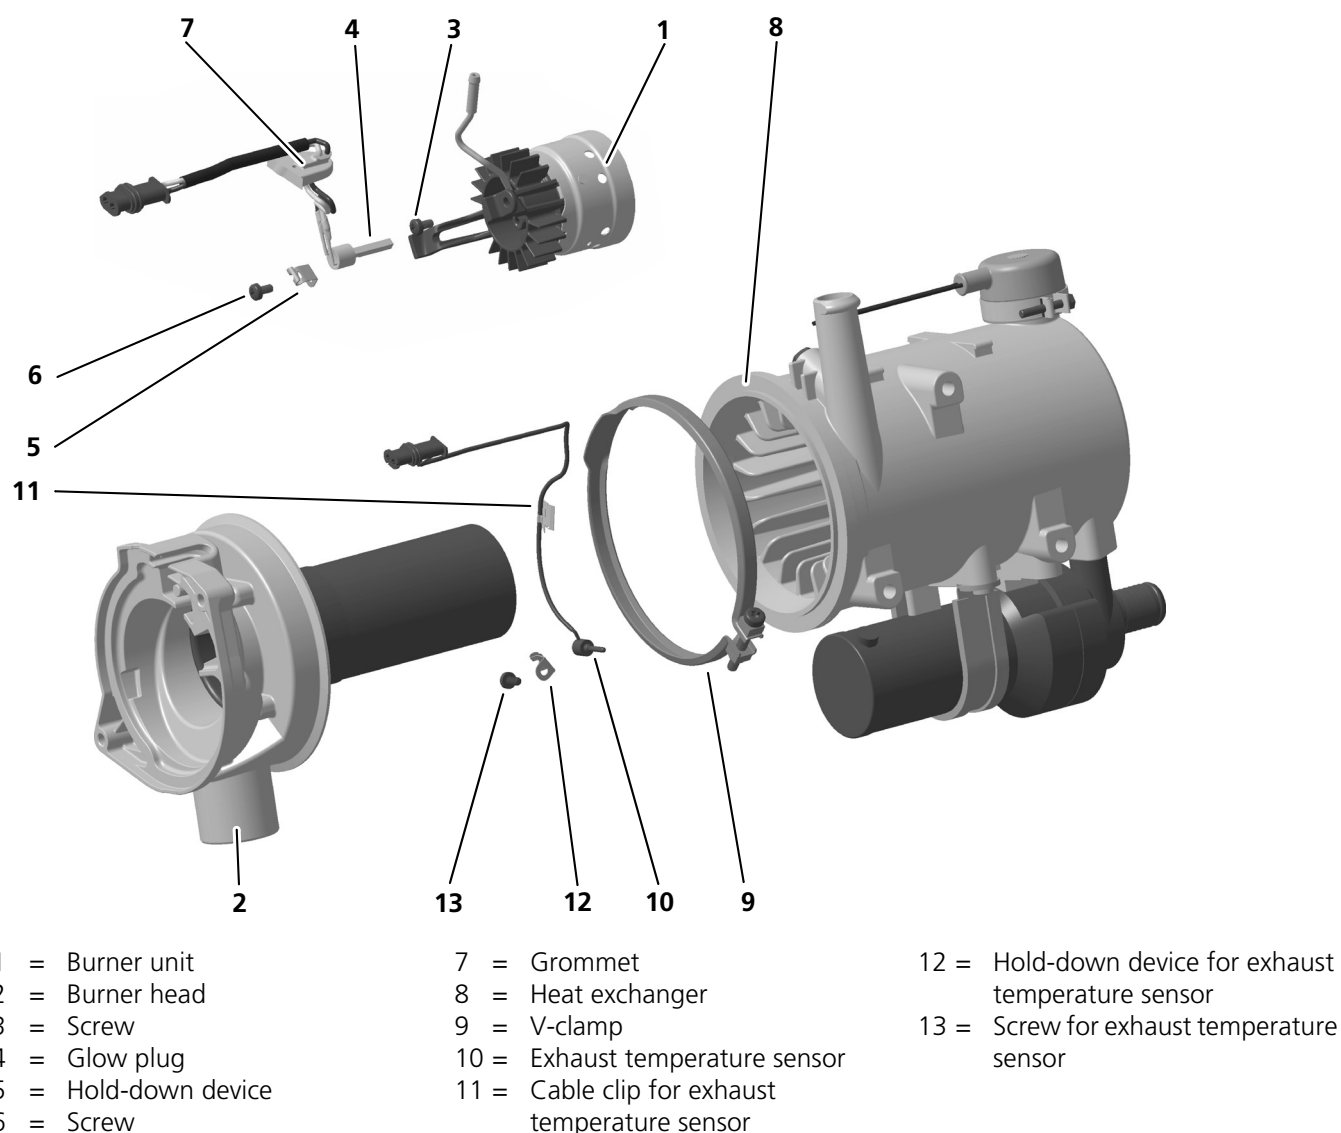

Fig. 904 Replacing burner unit, glow plug, burner head and exhaust temperature sensor
1. Grease round sealing ring (5, Fig. 904) with acid-free grease (Vaseline).
2. Screw coolant temperature sensor (6) with round sealing ring (5) into heat exchanger (4) and tighten to $1.5 \text{ Nm} \pm 10\%$.
3. Remove screw (3, Fig. 904).
4. Pull grommet (7) and burner unit (1) out of burner head (2).
5. Loosen screw (6) with hold-down device (5) for glow plug (4) and remove.
6. Pull glow plug (4) out of burner unit (1).
3. Remove fastening screw of V-clamp (9, Fig. 904) and pull off V-clamp.
4. Pull combustion air fan (4, Fig. 903) with burner head (2, Fig. 904) out of heat exchanger (8, Fig. 904) and remove.
3. Guide combustion air fan (4, Fig. 903) with burner head (2, Fig. 904) into heat exchanger (8, Fig. 904), align if necessary and fasten with V-clamp (9, Fig. 904).
4. Remove fastening screw of V-clamp (9, Fig. 904) and pull off V-clamp.
5. Pull burner head (2) out of heat exchanger (8) and remove.
1. Guide burner head (2, Fig. 904) into heat exchanger (8), align if necessary and fasten with V-clamp (9).